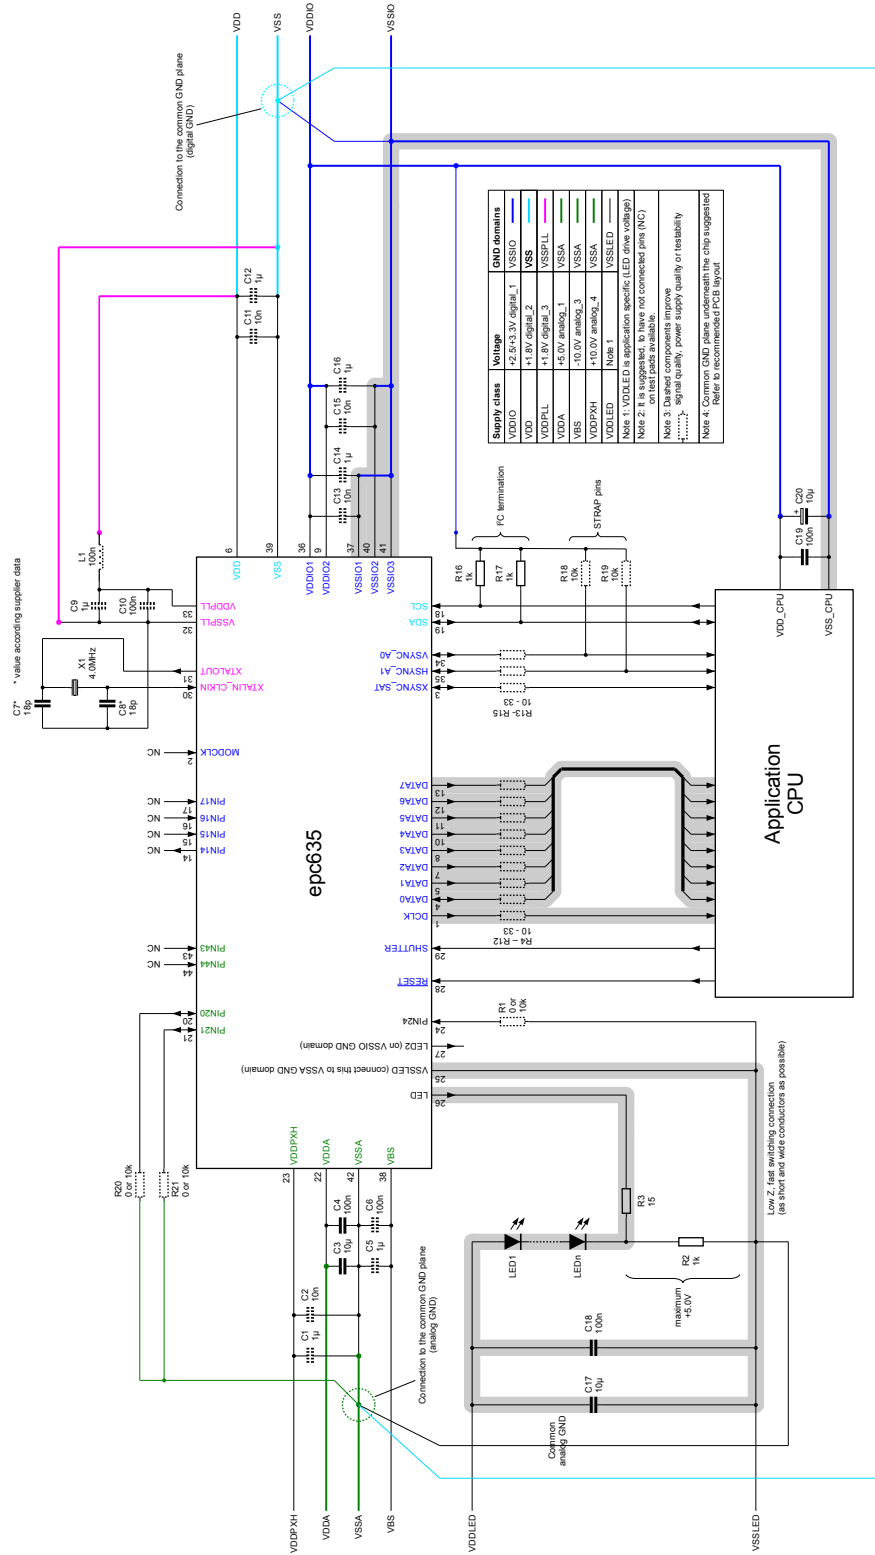
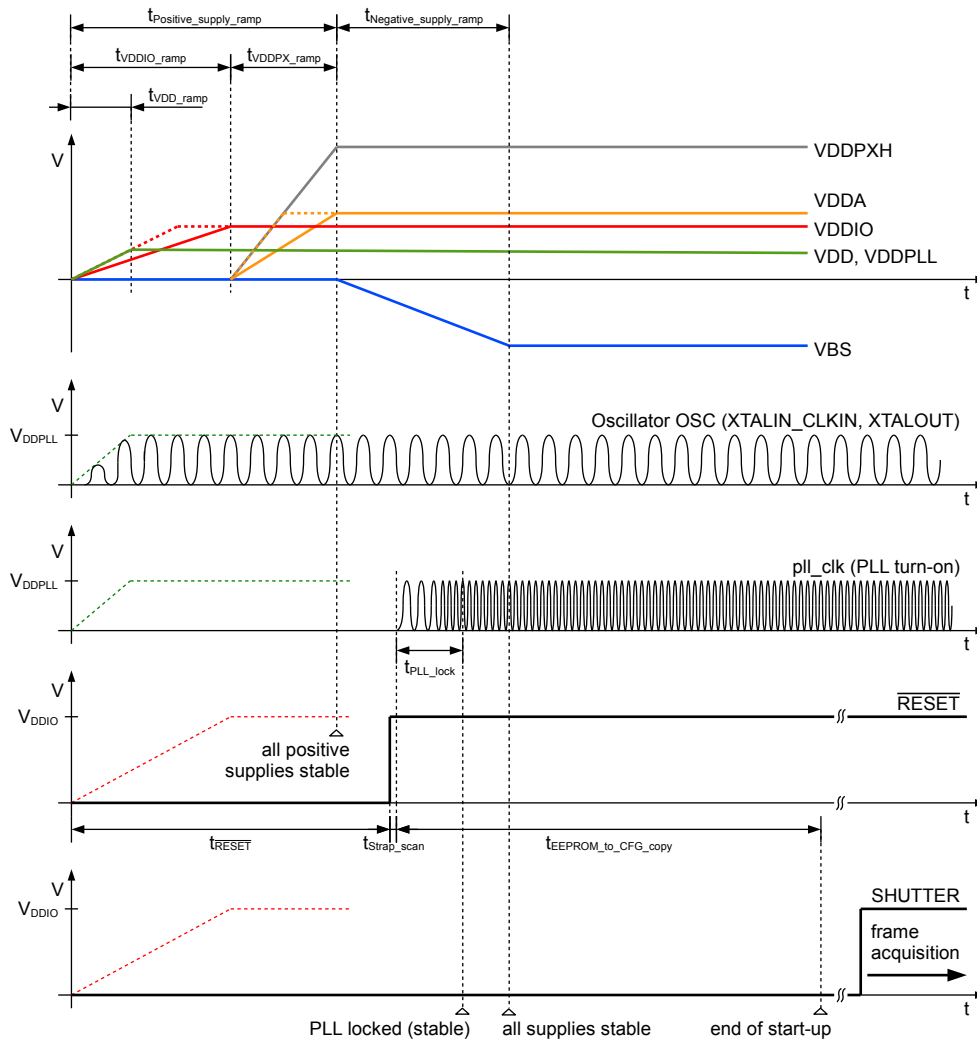

Figure 16: Typical application diagram
Figure 20: Power-up and reset sequence
Table 11: Values of component related to epc635 chip, see Figure 16
- +1.8V is used for supplying the digital logic (VDD), the on-chip oscillator OSC and the phase-look-loop PLL (VDDPLL). The digital logic creates some internal switching noise on VDD. When the same supply is shared together with OSC and PLL, their supply wiring must be separated from the digital wires and physically isolated from each other. These supplies are marked in the application diagram as VDD and VDDPLL respectively (Figure 16). A good practice is inserting on the PCB a series inductance of 100nH between them close to the supply source, then creating separate supply islands for both on the board. The XTAL/OSC and PLL are critical parts of the chip which directly impacts the optical system performance (i.e. distance calculation).
- +5V is used for supplying analog blocks of the chip e.g. pixel-field drivers and ADC readout circuitry. Refer to Figure 16.
15. Pins not listed here have to be connected according Figure 16.
During power-up, VDD and VDDPLL supplies (Figure 20) must be applied at the same time to the epc635. VDDIO can be applied either at the same time or after VDD and VDDPLL supplies become stable. In a system where VDDIO voltage is connected in parallel to application CPU IO supply pins (see Figure 16), VDD and VDDPLL can be generated by a linear regulator directly from VDDIO supply. In this case, all these three supplies ramp together.
The epc635 starts using either the internal 4MHz oscillator OSC with a crystal/resonator (Figure 16) or an external 4MHz clock, followed by an EEPROM copy sequence in parallel to the PLL turn-on phase. This is the factory default configuration. Several configuration registers are modified by copying the EEPROM content (Figure 49, i.e. overwrite reset values). The EEPROM copy step takes 340µs after the $\overline{\text{RESET}}$ is released.
The epc635 has output pins with dual/alternative functionality for PCB level flexible start-up configuration changing, called 'strap pins'. $\overline{\text{RESET}}$ release is followed by a strap pin scanning step. The chip programs its strap pins as inputs with internal pull-down resistors enabled for 4 osc_clk periods (refer to Table 1 and Table 3). If there is no external pull-up resistor connected, the corresponding strap pin will be scanned as logic 0 due to the internal pull-down resistor. If there is an external pull-up resistor connected (Figure 16), it will override the internal pull-down and corresponding pin will be scanned as logic 1. After the strap scan period, pins are programmed back as outputs so that they can be used for their main function. Strap pins and their definitions are listed below (Table 12).